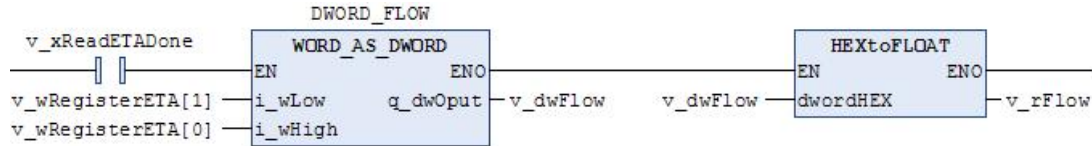

Figure F4-8
④Convert the read data into instantaneous flow rate, as shown in Figure F4-8, v_ RFlow is the instantaneous flow rate: